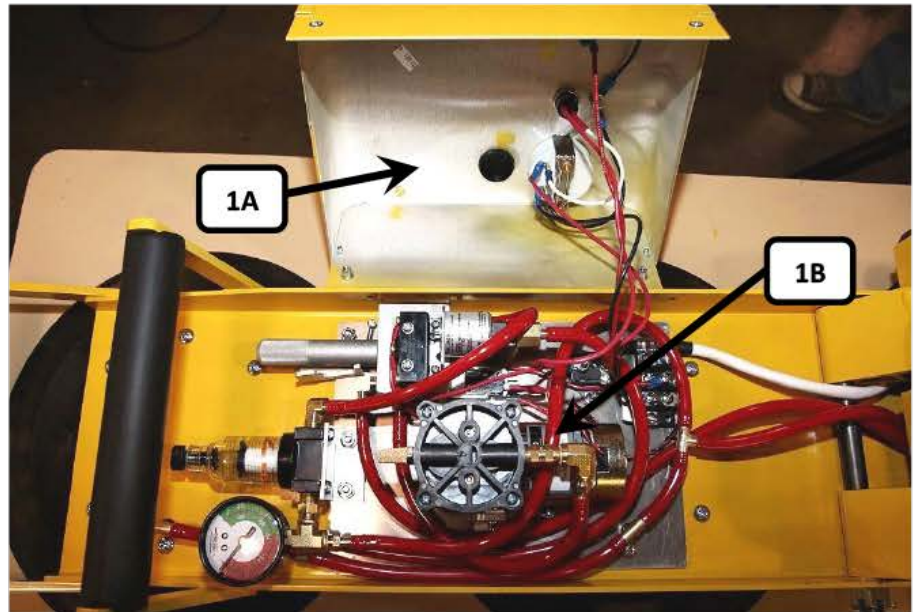

FIGURE 1
- 1) Carefully remove the vacuum generating system cover (1A) and lay it to one side, so that exposed wire terminals do not touch any conductive material, as shown in **FIGURE 1**.